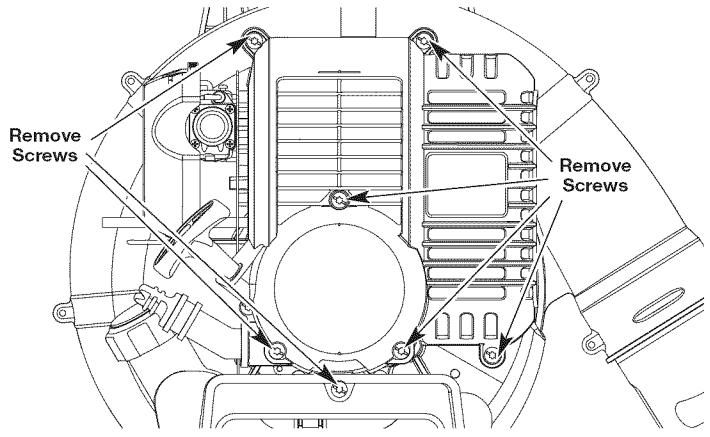

Fig. 30
1. Remove the seven (7) screws on the back of the engine cover with a Flat-head or T-25 Torx screwdriver (Fig. 30).
4. Remove the engine cover (Fig. 30).
- Stop the engine and allow it to cool. Remove the eight (8) screws on the back of the engine cover with a Flat-head or T-25 Torx screwdriver (Fig. 30).